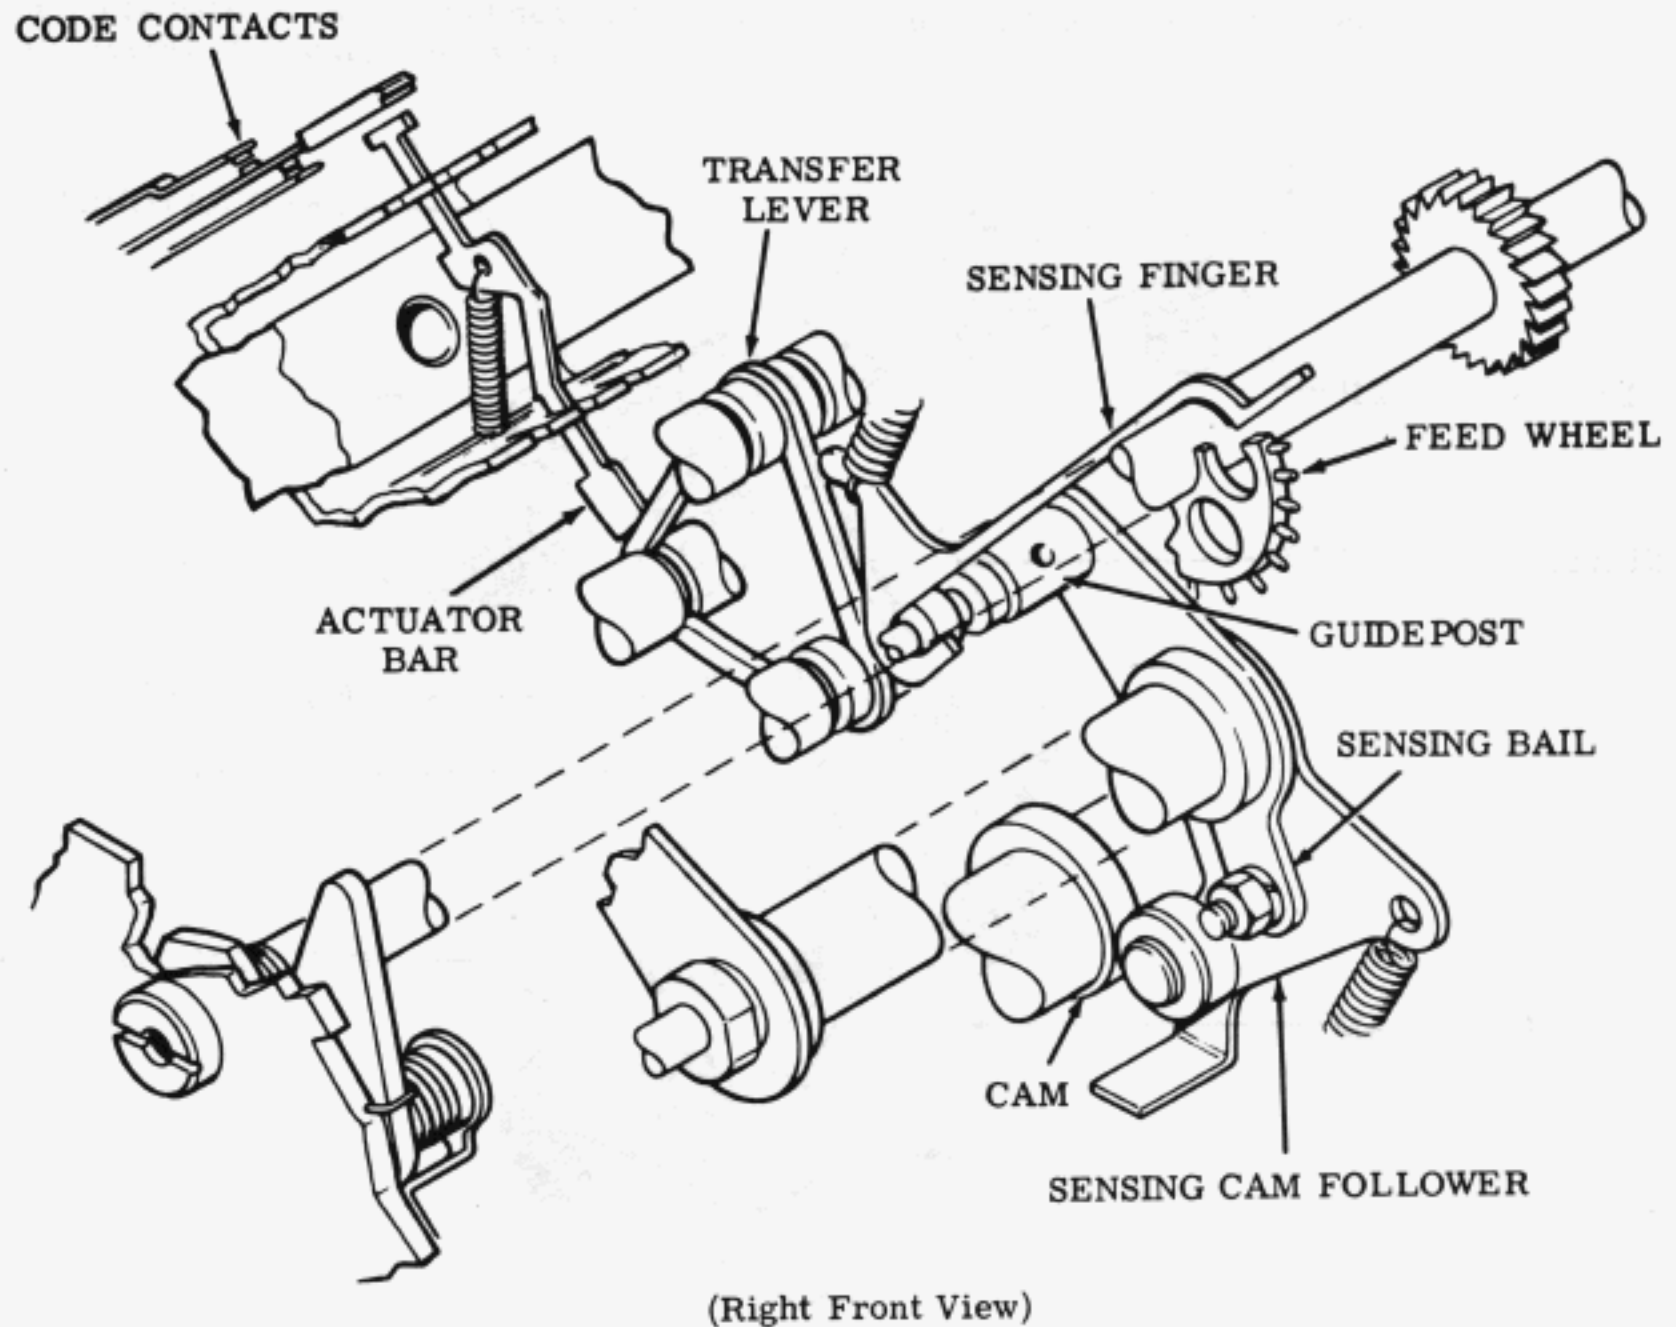

Figure 12 - Sensing Mechanism
3.10 The following actions occur during operation of the sensing mechanism (Figure 12):